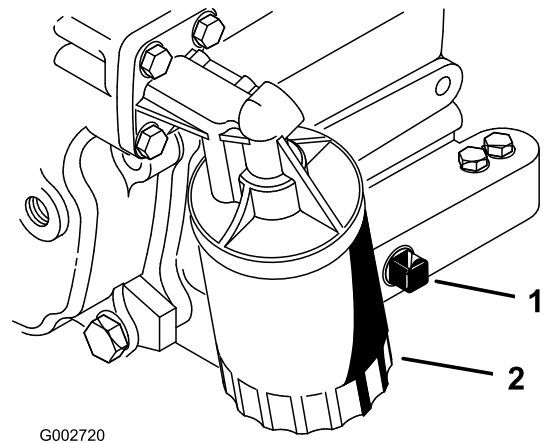

Figure 25
2. Remove the drain plug (Figure 25) and let oil flow into a drain pan. When the oil stops, install the drain plug.
3. Remove the oil filter (Figure 25). Apply a light coat of clean oil to the new filter gasket.